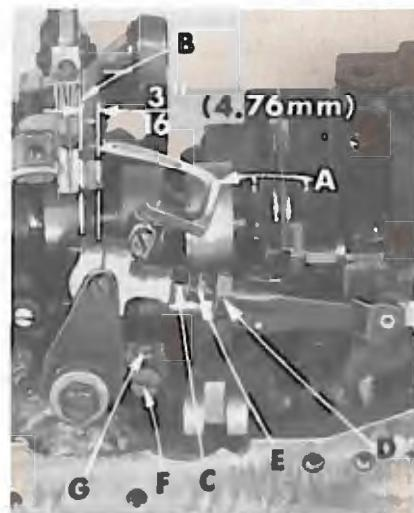

Fig. 8
Insert a new needle in the right needle seat, type and size as specified. If the looper gauge is 3/16 inch (4.76 mm), for example, set the looper (A, Fig. 8) so the distance from the center of the right needle (B) to the point of the looper is 3/16 inch (4.76 mm) when the looper is at its farthest position to the right. Looper gauge No. 21225-3/16 can be used advantageously in making this adjustment. Refer to chart for looper gauge setting and looper gauge number applicable to machine Style. If adjustment is required, loosen nut (C) (it has a left hand thread) and nut (D) on connecting rod (E), turn the connecting rod forward or backward to obtain specified dimension. Retighten both nuts, first nut (D) and then nut (C). Make sure the left ball joint is in vertical position and does not bind after adjustment.
The looper is set correctly in line-of-feed, if, as it moves to the left, behind the needle, its point brushes, but does not pick at the rear of the needle. If adjustment is necessary, loosen lock screw (F, Fig. 8) and turn stop screw (G) as required. Turning stop screw clockwise sets the looper to the rear and turning it counterclockwise acts the reverse. Holding looper to the front while making this adjustment may prove helpful. Tighten lock screw when setting is obtained and re-check the adjustment.